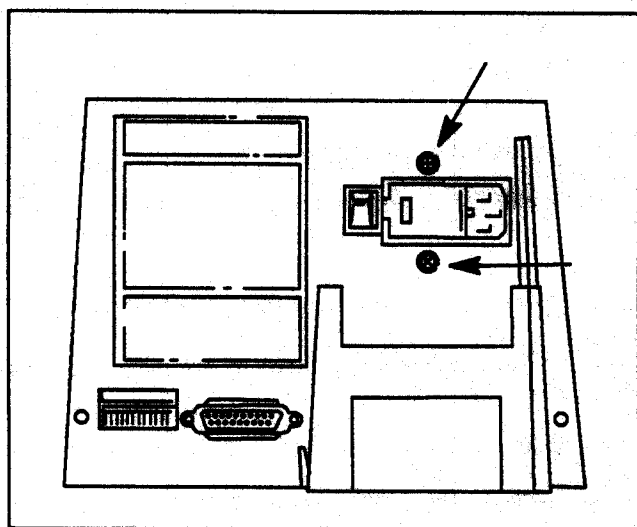

Figure 6-12. Rear Panel Removal
- e. Remove the two machine screws securing the rear panel to the power module. Remove the rear panel. See Figure 6-12.